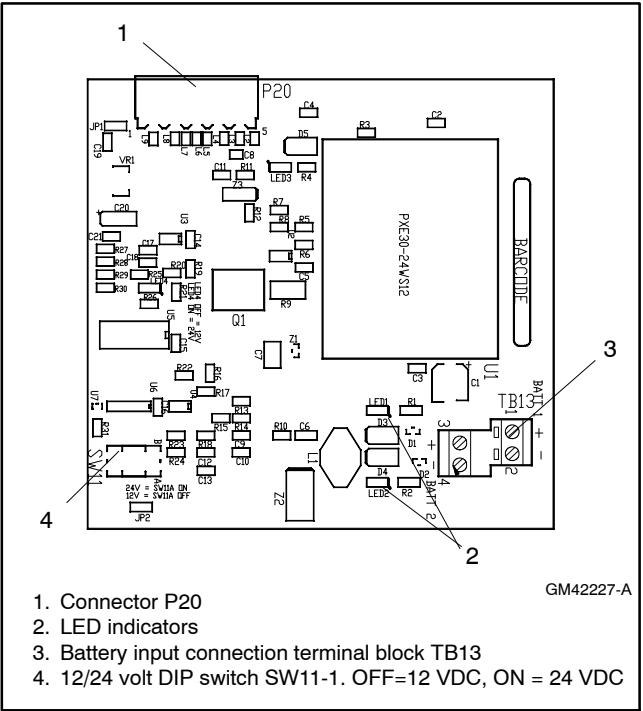

Figure 3-16 External Battery Supply Module
The EBSM produces 2 amps at 12 VDC with 9- 36 VDC input. The EBSM input is reverse-polarity protected. The EBSM outputs a low battery voltage signal when the external battery voltage falls below 11 VDC for a 12-volt system or 22 VDC for a 24-volt system. The module is shown in Figure 3-16.
1. Use #14-28 AWG wire to connect one or two batteries to terminal block TB13. (A second battery can be connected but is not required.) Follow the marking on the board for the positive (+) and negative (-) connections. See Figure 3-16 and Figure 3-17.
Note: If the battery connections are reversed, red LED1 or LED2 will light. See Figure 3-16.
2. Set voltage selector switch SW11-1 to 12 or 24VDC. See Figure 3-16 and Figure 3-17. Switch SW11-2 is not used.